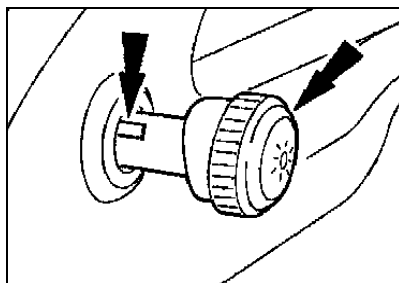

Figure 1
- B. Remove the headlamp switch knob by inserting a narrow tool or small standard screwdriver in the slot on the side of the switch. Slide the tool along the slot moving towards the front end of the knob and pull the knob away from the dash to release the knob from the shaft. (See Figure 1)